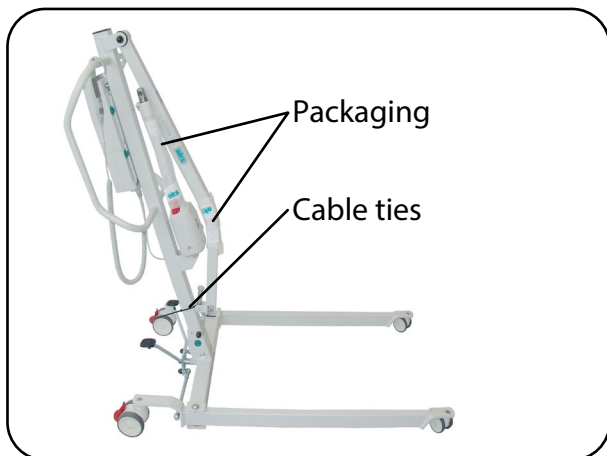

Fig. 6.2.05 - Stand mast set upright
14. Remove the packaging from the lift drive and lifting arm (Fig. 6.2.05).